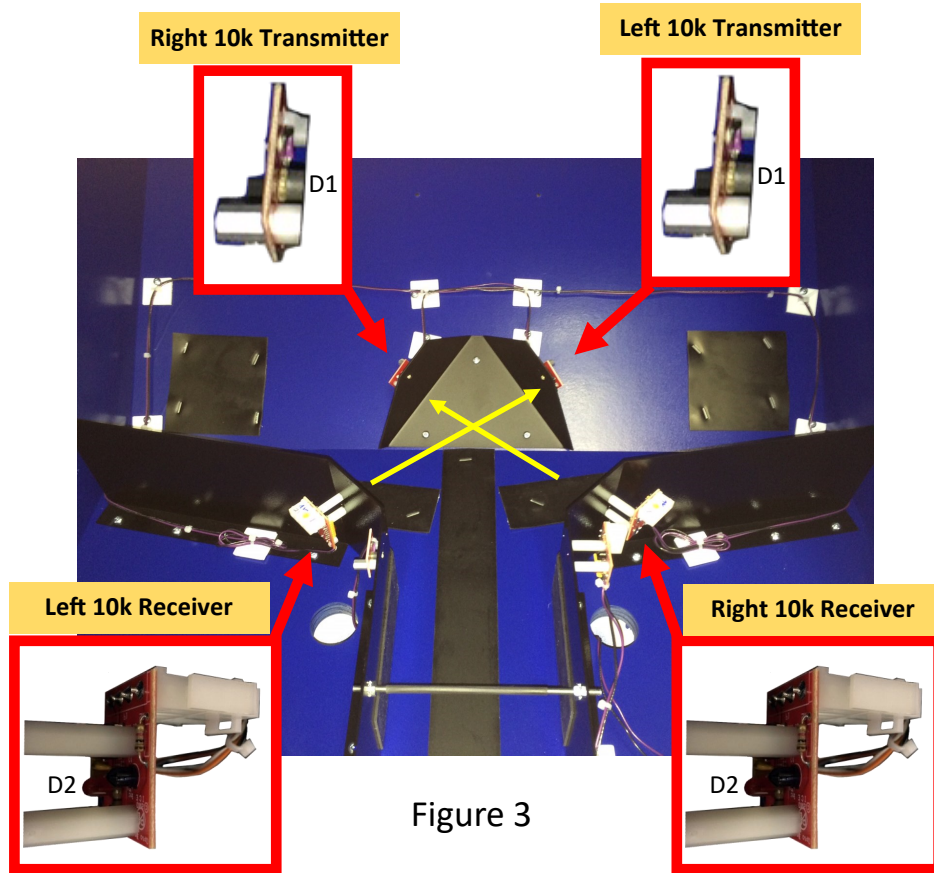

Figure 3
**STEP 2:** Refer to the score sensor error number (Figure 2 below) to determine the location of the failed sensor. Observe the status of LED D2 located on the receiver side (See figure 3 on the next page). Is the LED On constant? If not go to step 3. If so, then it is possible D1 LED is not emitting a beam. You cannot see this beam with your eyes. If you have a cell phone with a camera option, point your phone at D1 on the transmitter board in camera mode. If it doesn't blind the camera then either the IRLED has gone bad. At this point replacement is recommended. NOTE: Some hires cameras will filter out the IRLED light, use forward camera mode instead.